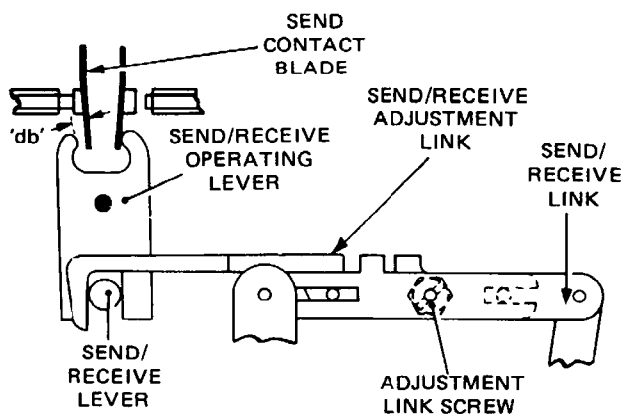

Fig. 4.112 SEND/RECEIVE OPERATING MECHANISM
- 120.6 Turn the machine by hand until the send/receive adjustment link is fully to the right and the send contact is closed (Fig. 4.112). Check that there is a clearance of at least 0.003 inch between the peg on the send/receive operating lever and the send contact blade (clearance 'db').